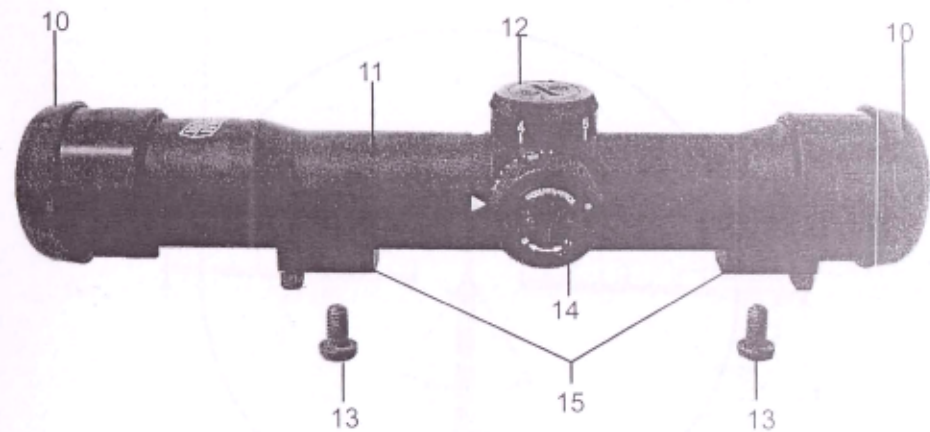

Fig. 4 Reticle pattern
2.2.1 The reticle is designed according to Fig. 4. The reticle pattern consists of the sighting thorn with side scale per FINABEL.